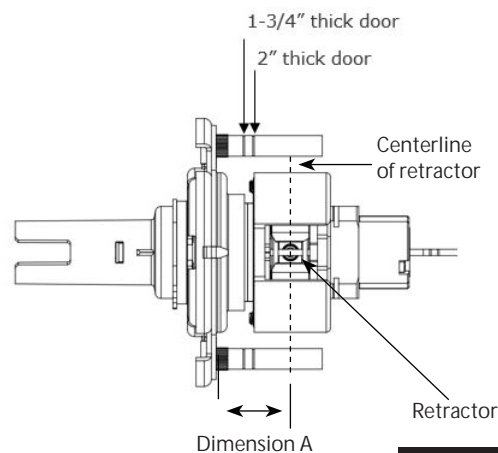

Figure 6
- Verify correct position from the markings on the through-bolt stud, or by measuring from inside surface of the mounting plate to the centerline of the retractor. (Figure 6)